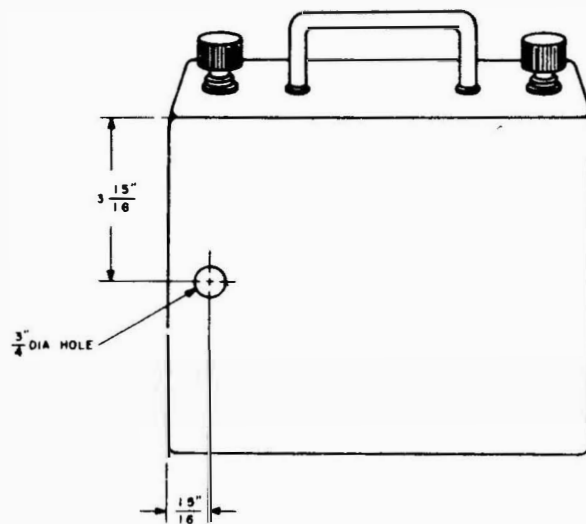

Figure 1. Case modification AN/PRC-39.
Drill a  $\frac{3}{4}$ -inch-diameter hole in the aluminum case directly over the final tank circuit in accordance with figure 1 of this article. Insert a  $\frac{3}{4}$ -inch rubberized knock-out plug into the hole. The stock number of the plug is: KZ5340-893-8798. (608)